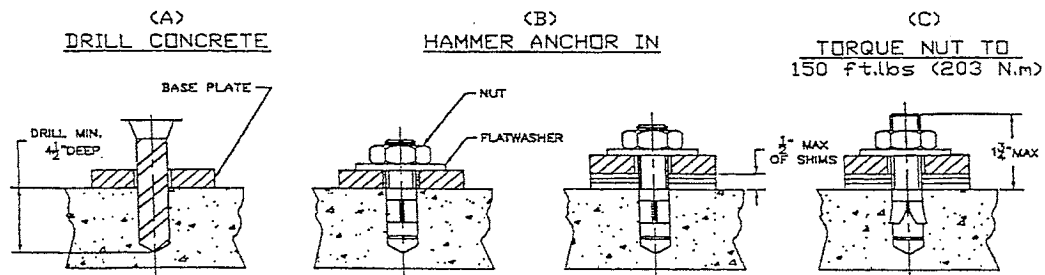

Figure 17 - Anchor Bolts
3. Refer to Bay Layout (**Figure 3**) to ensure that the column is still in the proper position. Using a rotary hammer drill with a 3/4" masonry drill bit, drill holes in the floor on the high side column using the tower baseplate as a template. Make sure that the 3/4" masonry drill is in good condition (**Figure 17**).
4. Carefully clean out drilling dust from the anchor holes. Hammer in the anchor bolts (**Figure 17**). Hand tighten all anchor bolts.
6. Torque all anchor bolts to 150 ft-lbs. (203 Nm), continually checking that the column is level as you proceed. If anchor bolts do not tighten to 150 ft-lbs. OR project more than 1 3/4" above the concrete surface (**Figure 17**), the concrete MUST be replaced by an appropriate concrete pad. (*Consult Product Manufacturer / Supplier for further details*).
2. Refer to Bay Layout (**Figure 3**) to ensure that the column is still in the proper position. Using a rotary hammer drill with a 3/4" masonry drill bit, drill holes in the floor on the low side column using the tower baseplate as a template. Make sure that the 3/4" masonry drill is in good condition (**Figure 17**).
3. Carefully clean out drilling dust from the anchor holes. Hammer in the anchor bolts (**Figure 17**). Hand tighten all anchor bolts.
5. Torque all anchor bolts to 150 ft-lbs. (203 Nm), continually checking that the crossmember and column are level as you proceed. If anchor bolts do not tighten to 150 ft-lbs. OR project more than 1 3/4" above the concrete surface (**Figure 17**), the concrete MUST be replaced by an appropriate concrete pad. (*Consult Product Manufacturer / Supplier for further details*).